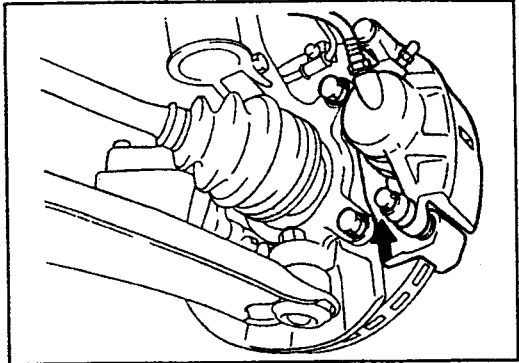

Fig. 13.3. — Remove the sleeve bolt (arrow) and lift up the caliper to expose the brake pads.
- Remove the bolt at the bottom of the caliper (Fig. 13.3) and swing the caliper cylinder upwards. Tie the caliper in position with a piece of wire to keep it away from the brake pads.